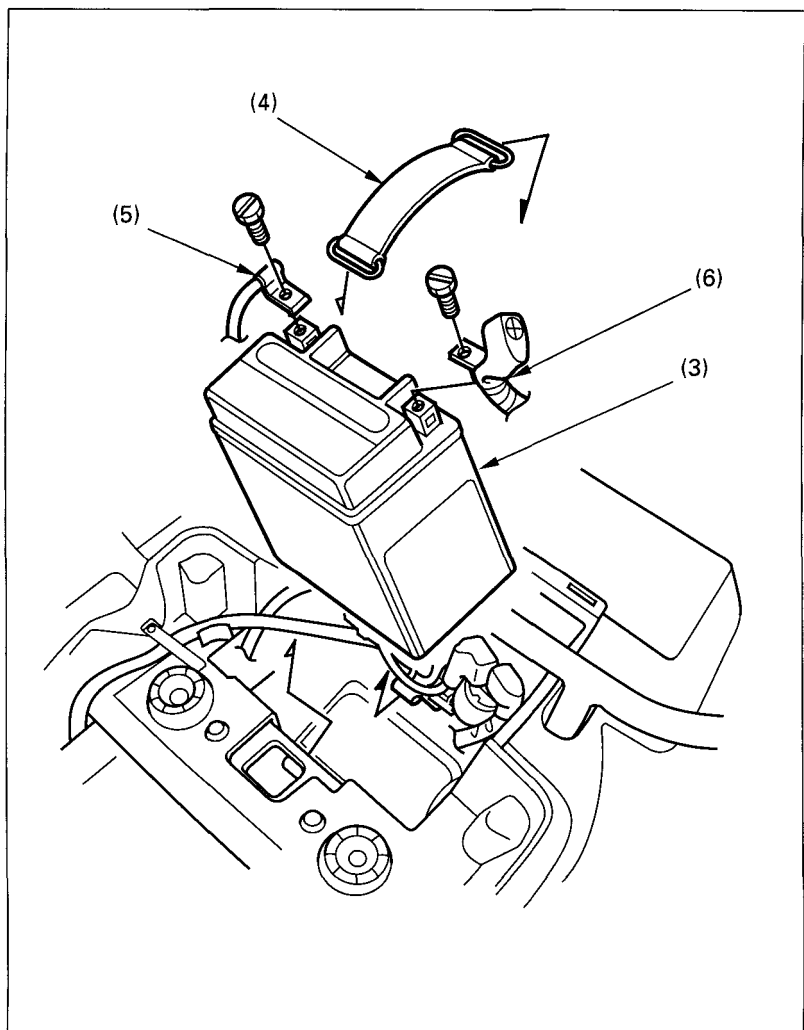

Fig. 4-19
4. Release the rings and remove the rubber band ( 4 ). ( Fig.4-19 )